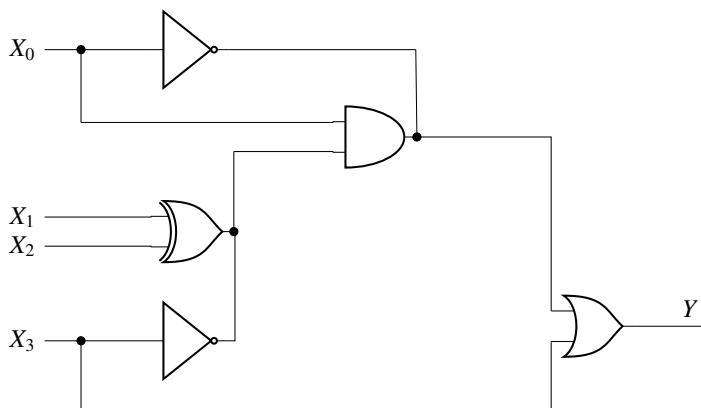

Fig. 3.34
51. The logic gates shown in the digital circuit below in Fig. 3.34 use strong pull-down nMOS transistors for LOW logic level at the outputs. When the pull-downs are off, high -value resistors set the output logic levels to HIGH (i.e. the pull-ups are weak). Note that some nodes are intentionally shorted to implement “wierd logic”. Such shorted nodes will be HIGH only if the outputs of all the gates whose outputs are shorted are HIGH.